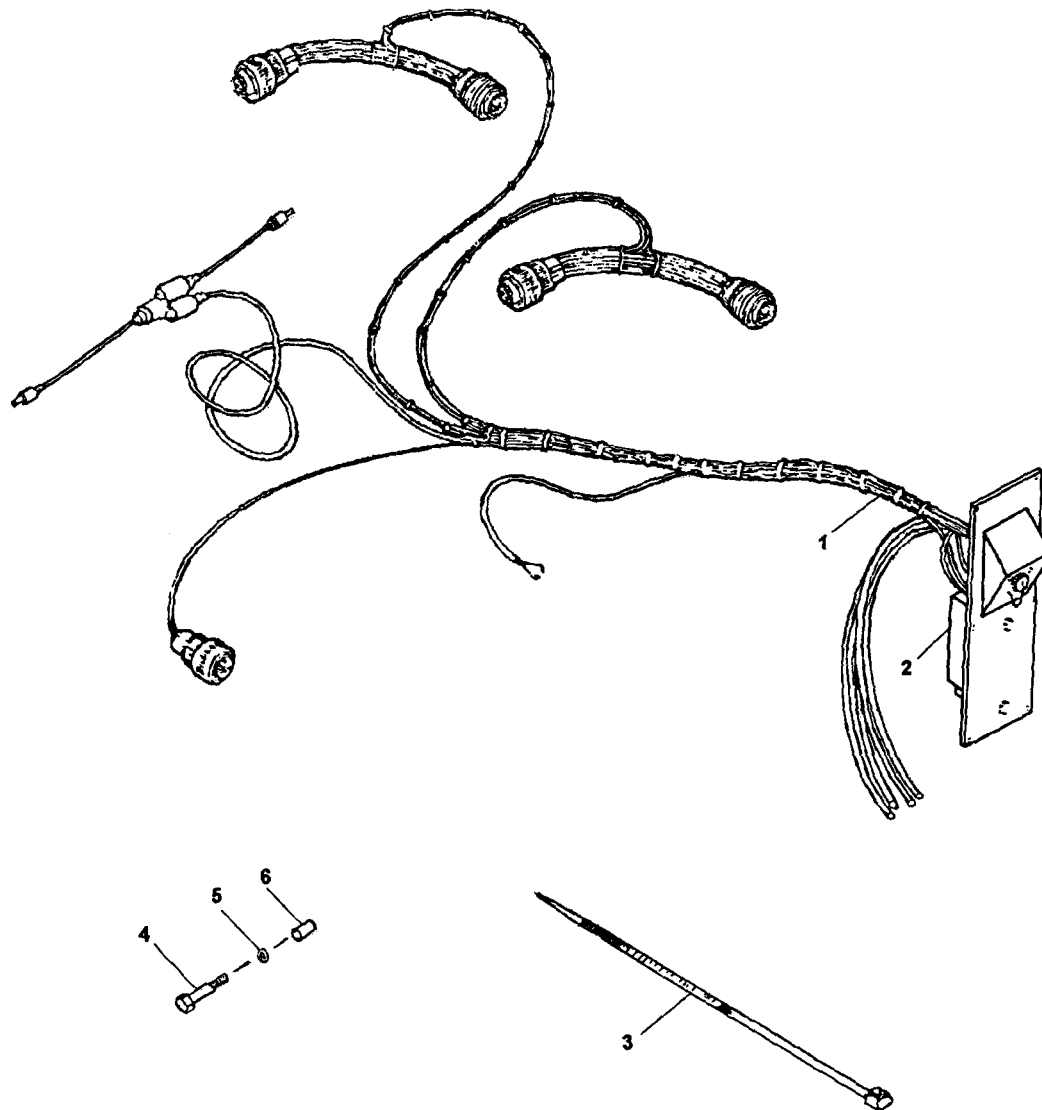

Figure 2-14. Applications Kit Components
**2-26 APPLICATIONS KIT.** The application kit provides remote control of the emergency stop capability and battle short capability and remote low fuel monitoring. The kit consists of a connector plate, wiring harness, and remote functions assembly. (Refer to Figure 2-14.)
**2-27 ACOUSTIC SUPPRESSION KIT.** The acoustic suppression kit provides the ability to lower the noise level of the generator set to 70dB(A) at 7 meters. The kit consists of panels, doors, and components that cover or replace original components of the generator set.